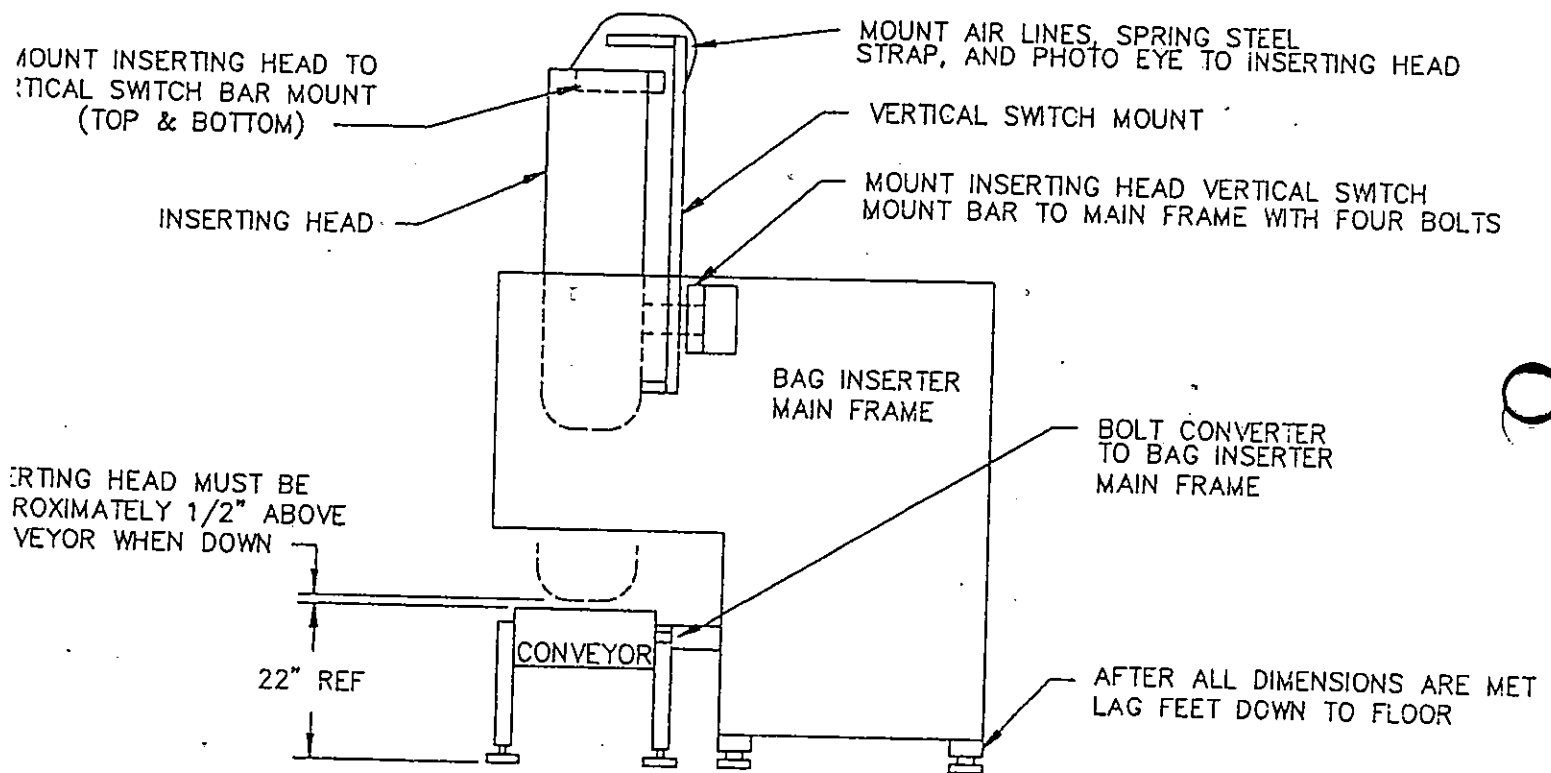

FIGURE 3.2-1
2. Attach inserting head, vertical switch mount and conveyor in proper location. (See Figure 3.2-1.)
3. Connect tubing support (spring steel) to inserting head with two (2) #10-24 N.C. screws and connect two (2) 1/4" o.d. air lines to inserting head manifolds. Also connect photo eye to head. (See Figure 3.2-1.)
4. Attach case stop and case spacing mechanism to the conveyor in their proper location. (See Figure 3.2-1.)
6. The conveyor must be mounted to the bag inserter; all wires, junction box, and motor connected to bag inserter control box. (See Figure 3.2-1.)